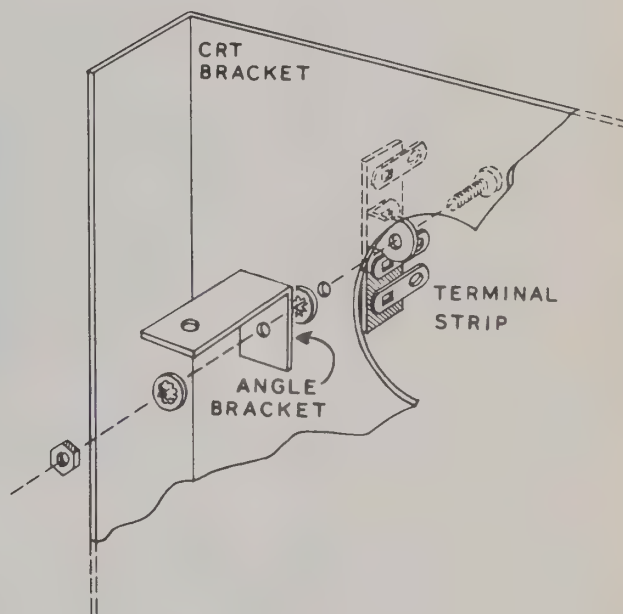

Figure 4
- (✓) Referring to Pictorial 2 and Figure 4, mount the 4-lug terminal strip on the CR tube support bracket at G. Be sure to include one of the small angle brackets, and use two lockwashers as shown.